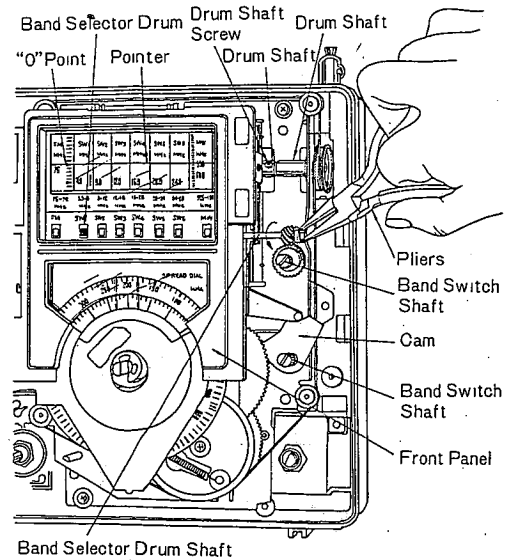
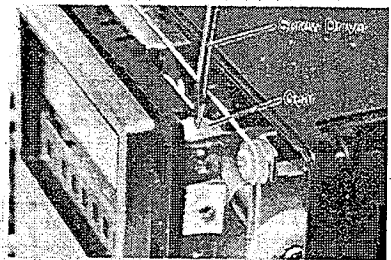

Fig. 8
Fig. 12
2. Set the band switch shaft of dial drive assembly at the position, as shown in fig. 8.
3. Set the "0" point of dial scale to pointer of front panel, as shown in fig. 8.
6. Turn the shaft of band selector drum with a pliers and set the indicator of band selector drum to "SW1" position, as shown in fig. 8.
3. Loosen the one (1) screw for the drum shaft, as shown in fig. 8.
8. Turn the roller gear, shown in fig. 12 and set the "0" point of dial scale to the pointer of front panel, as shown in fig. 8. Tighten the one (1) screw for the drum shaft, as shown in fig. 8.